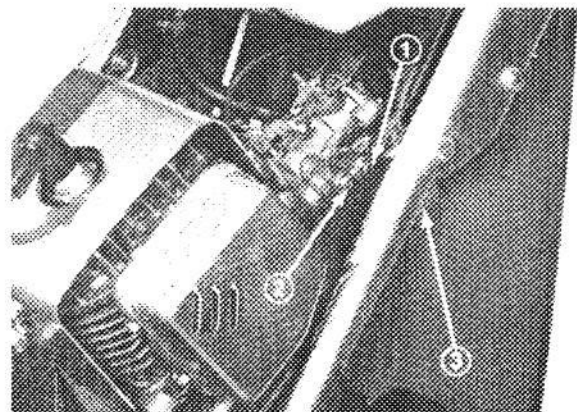

Figure 15
1. Power Adjusting Screw (Fig. 15) – Close screw by gently rotating it clockwise until a slight seating resistance is felt. Next, rotate power adjusting screw 7/8 of a turn counterclockwise.
2. Idle Adjusting Screw (Fig. 15) – Close screw by gently rotating it clockwise until a slight seating resistance is felt. Next, rotate idle adjusting screw 1 full turn – 360° – counterclockwise.